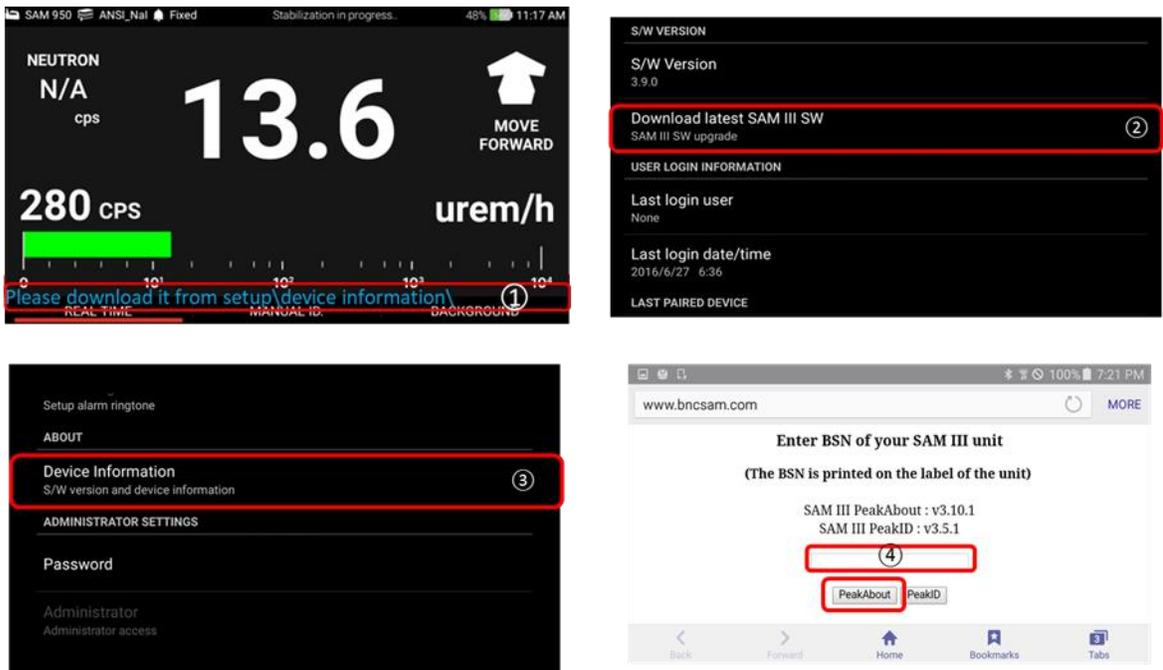

Figure 4.3. SAM III SW upgrade procedure
✓ Following is software upgrade procedure. Refer to the figure 4.3 below.
1. SW upgrade notification message is appeared on the low bottom of the main screen as shown in figure 4.3. only if the currently installed version is lower than the latest one.